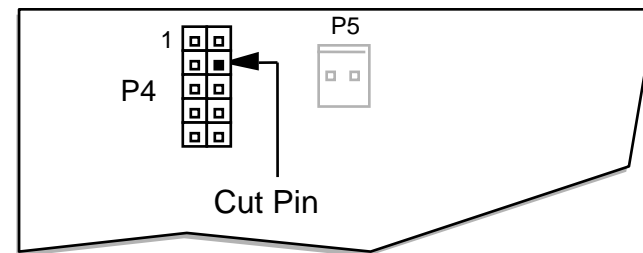

Figure 11
- ☐ Locate P4 on the Control board, a 10-pin, dual row (5 x 2) male connector (see Figure 11). P4's pins are numbered left to right, top to bottom (pin 2 is to the right of pin 1, pin 3 is below pin 1, etc.).